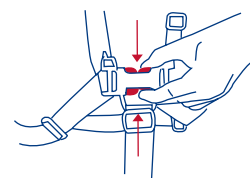

Fig. 17b
• To release, apply pressure to both sides of each male clip until the clip is released. See figure 17b. This process requires a moderate amount of effort so as to prevent an accidental release by your child.